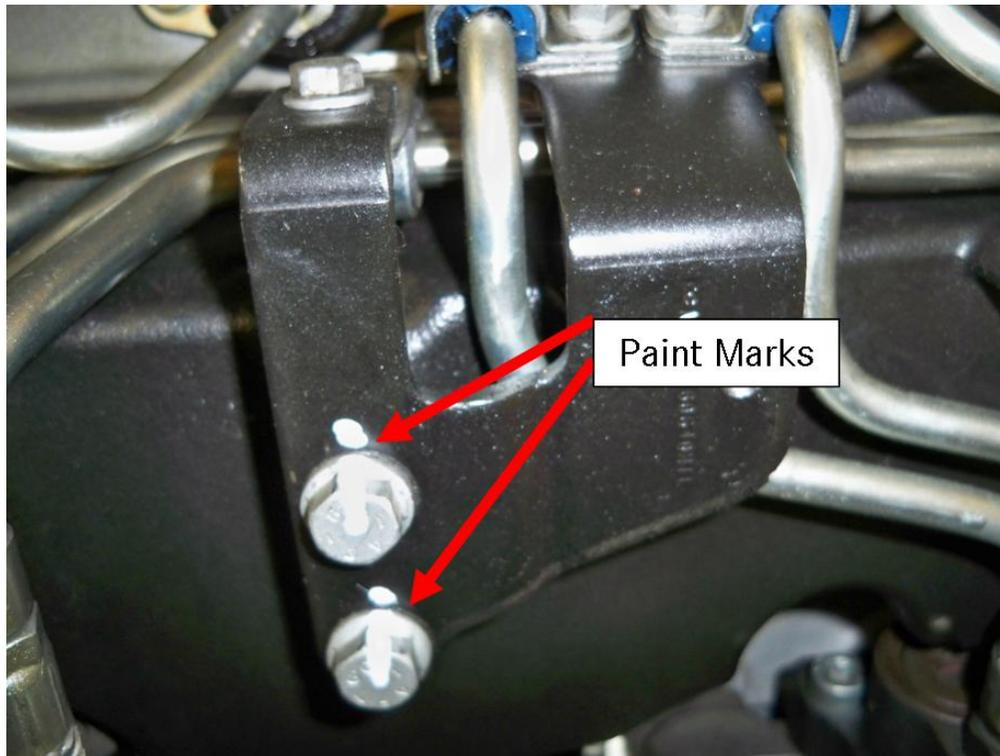

Figure 5 – Paint Marks on Mounting Bracket Bolts
8. Using a paint pen, scribe a line from the middle of the two Mounting Bracket bolts to the Mounting Bracket. See Figure 5.